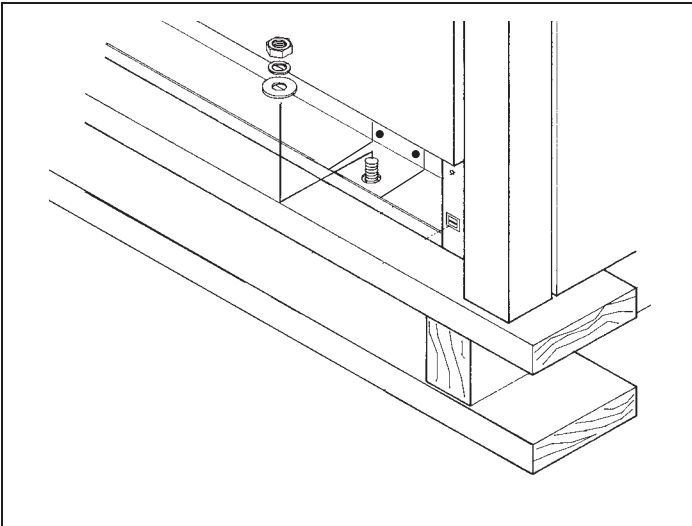
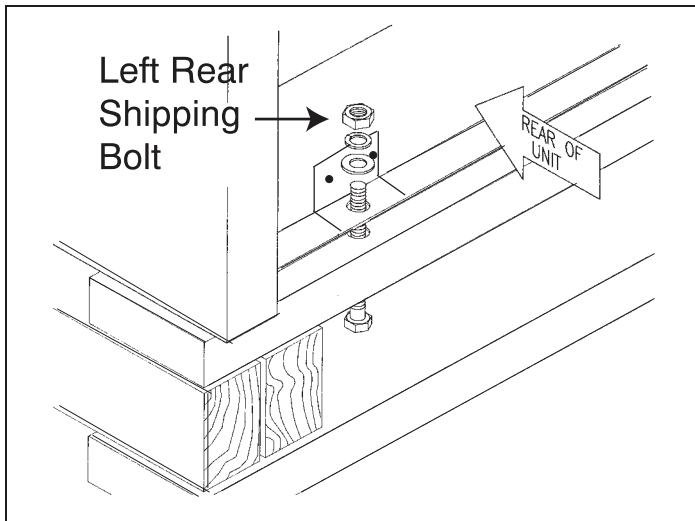

Figure 4: Removal of Two Front Shipping Bolts
Figure 5: Removal of Two Rear Shipping Bolts
- Remove the outer carton and packing material from the shipping pallet. The all gas ranges are held to the pallet by four (4) bolts (see Figure 4 and Figure 5). The two front pallet bolts are accessible only after removing the kick panel. The panel is removed by two screws below the lower corners of the oven cavity. After removing the bolts, the range must be lifted and removed from the pallet.